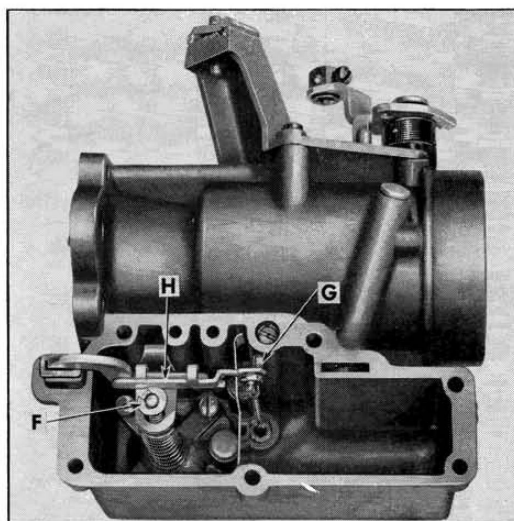

Fig. 4
5. Remove bowl cover gasket, then remove dampener spring retainer "F" and dampener spring (fig. 4).